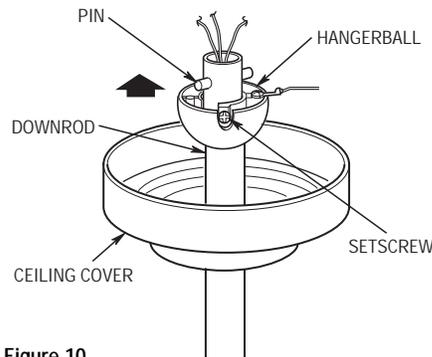

Figure 10
- 20. Place the ceiling cover over the downrod. Then reinstall the hanger ball (Figure 10) on the downrod as follows. Route the three 80" motor leads through the hanger ball and slide the hanger ball over the downrod. Position the pin through the two holes in the downrod and align the hanger ball so the pin is captured in the groove in the top of the hanger ball. Pull the hanger ball up tight against the pin and securely tighten the setscrew in the hanger ball. A loose setscrew could create fan wobble.